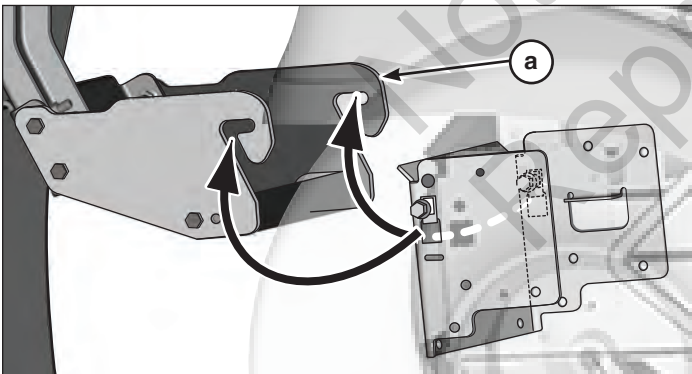

Figure 7
3. Remove the rear support frame (a, Figure 7) from the rear of the rider.